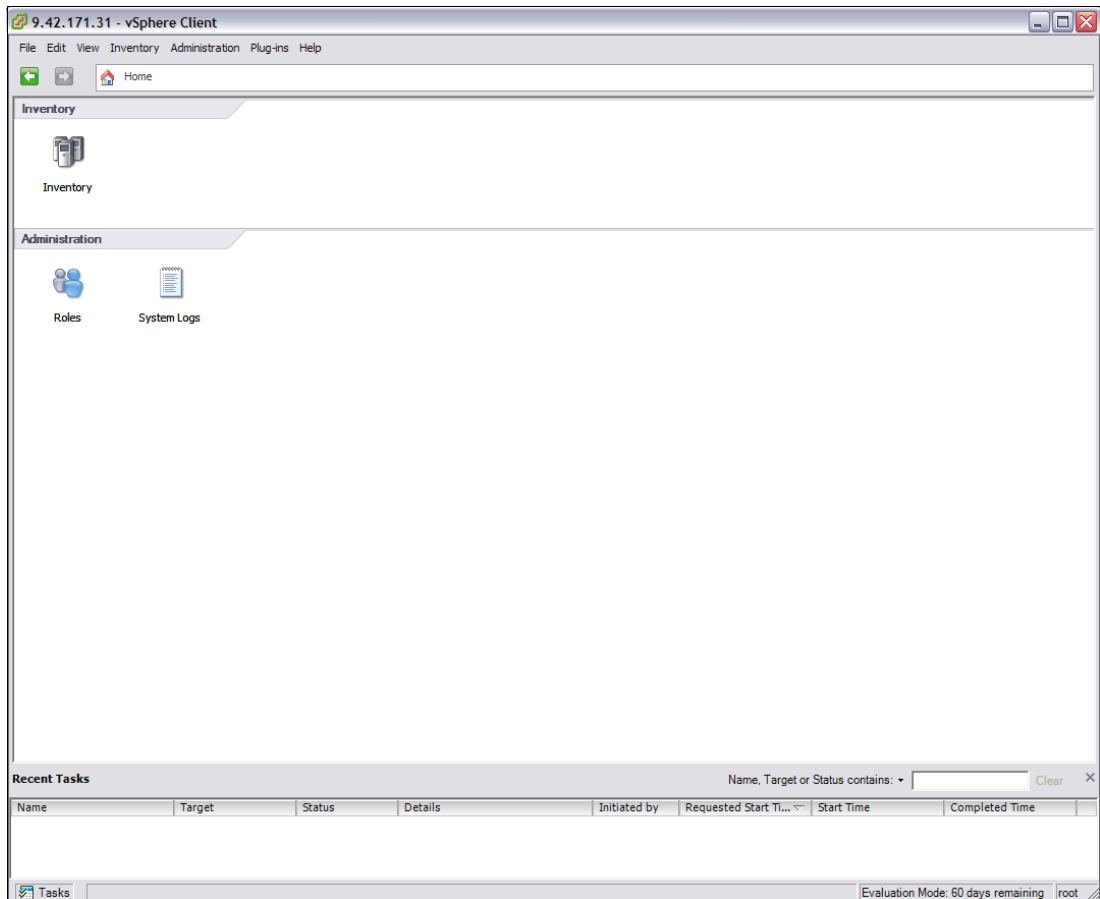

Figure 22-49 ESX vSphere Client - initial administrative interface
13. Figure 22-49 is the initial administrative interface for the VMware ESX Server. Click the **Inventory** icon.